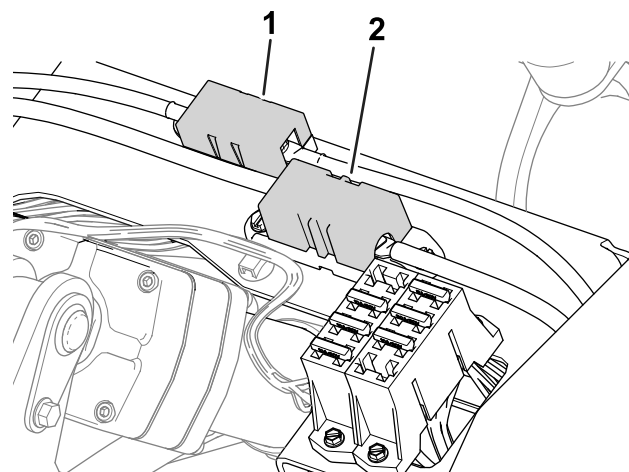

Figure 61
- The fuses for the generator (100 A) and the right wheel motor (60 A) are located under the seat (Figure 61).